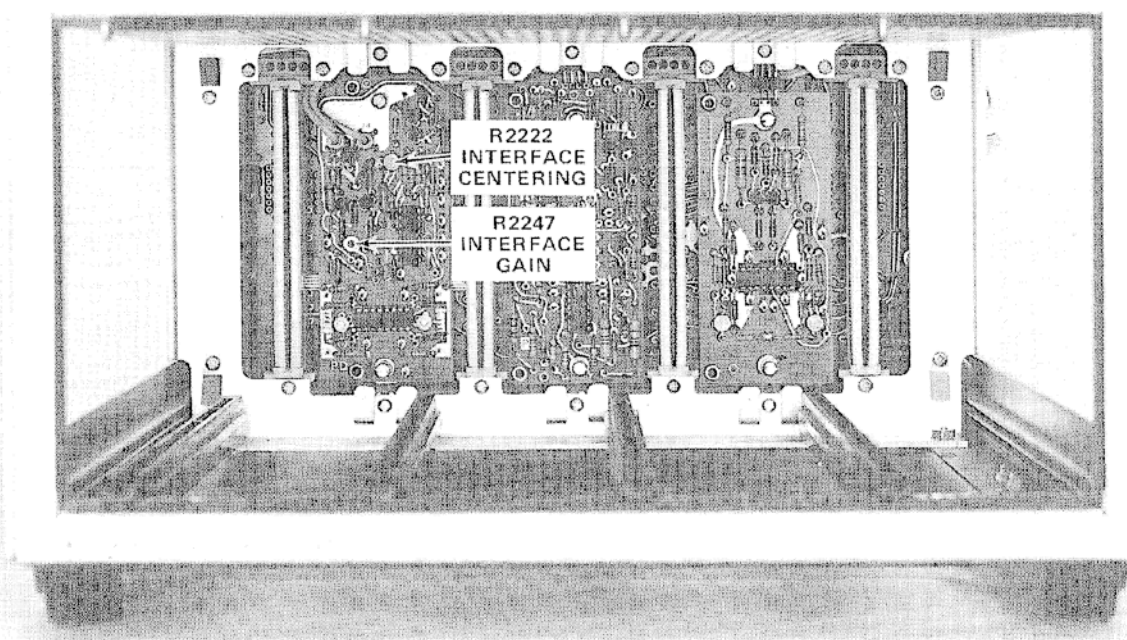

Fig. 3-4. Location of adjustments on A22, Vertical Interface board.
- ADJUST—Interface Centering adjustment R2222 (see Fig. 3-4) for a display DC level within 0.2 division (10 millivolts) of the zero-volt reference level in the LEFT and RIGHT positions of the VERTICAL MODE switch.
- ADJUST—Interface Gain adjustment R2247 (see Fig. 3-4) for a test-oscilloscope display of nine traces with six divisions ± 0.9 division deflection between the second and eighth traces (300 millivolts within 45 millivolts).